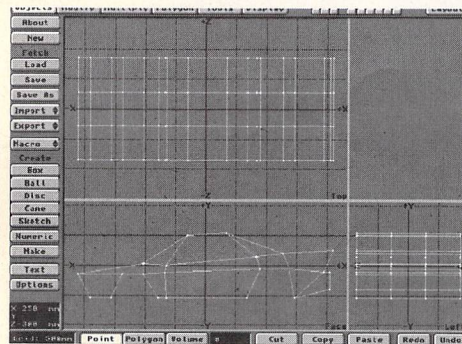
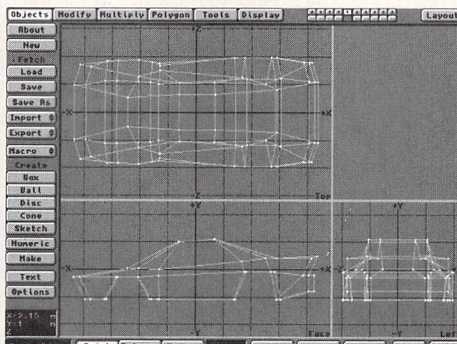

Figure 4: The extruded and centered primitive car shape.
Figure 5: After moving, stretching and tapering our primitive car, we are starting to get a more recognizable shape.
- Once the basic profile is finished it can be extruded to form the body. Do this with three segments so the body can have more shape (Figure 4). After extruding, the object can be shaped by stretching the points in the middle out toward the sides to give the sides some bevel. The roof and window points can also be stretched in to round them out, and the whole body can be tapered slightly toward the front. Then the row of points at the window line can be adjusted to give more curve to the windows (Figure 5).